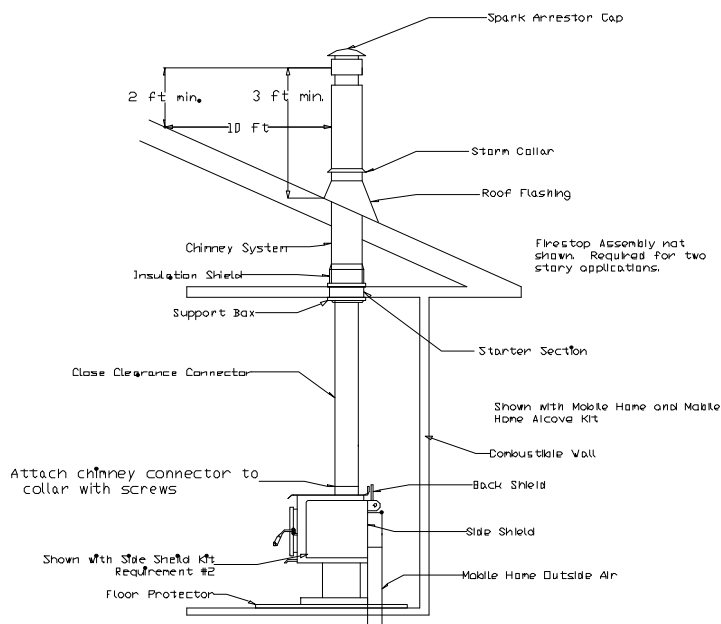

Fig. 30 Mobile Home, Residential Close Clearance and Alcove , Roof Exit
5. Residential close clearance installations require side shields, a rear shield OR fan kit, and one of the listed, prefabricated HT chimney systems with matching double wall close clearance connector shown in figure 30. These requirements are the same as for a Mobile Home installation, except for the outside air kit. Installation instructions begin on page 17.